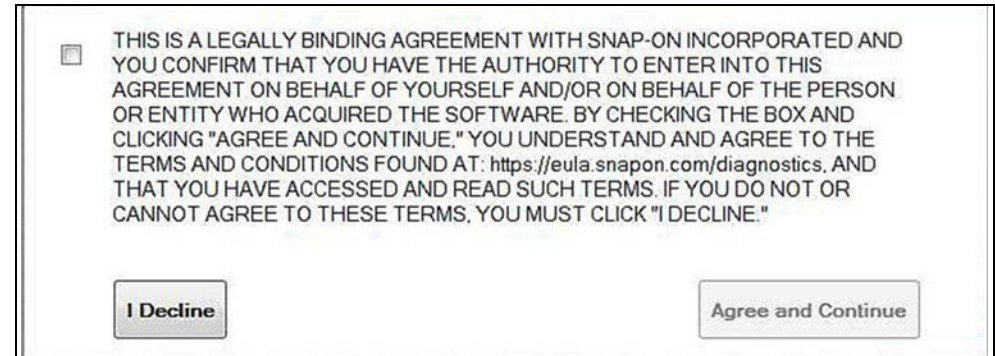
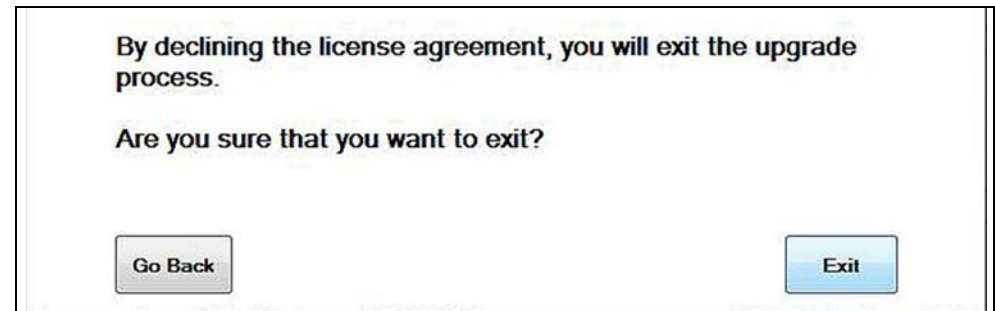

Figure 13-13 Typical EULA acceptance screen
Figure 13-14 Typical EULA acceptance screen
**To Accept:** at the screen prompt (Figure 13-13) click the checkbox on the left side of the window, and then select **Agree and Continue**. The software will be installed automatically.
Figure 13-13 below represents a typical EULA acceptance agreement screen.
**To Decline:** at the screen prompt (Figure 13-13) select **I Decline**. A confirmation message is displayed providing options to Go Back or Exit the software installation (Figure 13-14).